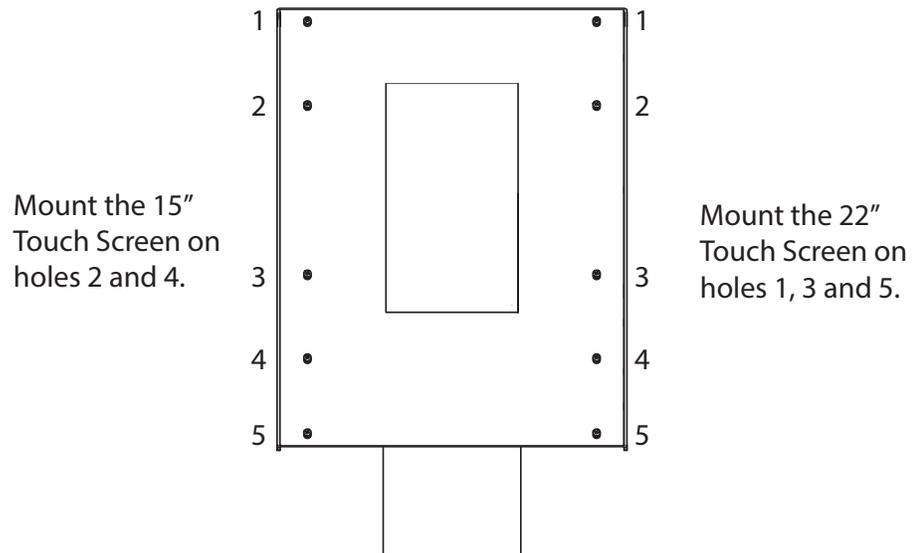

Figure 24. Mounting holes
1. Align the top two mounting holes of the Touch Screen with the top holes on the stand. See Figure 24.